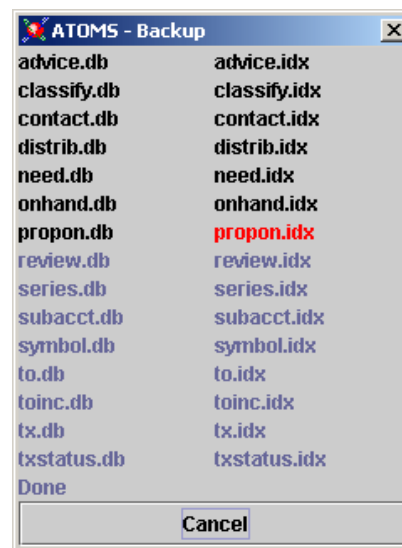

Figure 4-17. Back-Up Progress
- 3) When satisfied with the directory selected, click **OK**. A **Back-Up Progress** window appears (Figure 4-17), clicking off the files (changing colors to red and then black) as they are written to the selected Back-Up directory.
- 3) When satisfied with the directory selected, select **OK**. A Restore Progress window appears (very similar to the Back-Up Progress window in Figure 4-17), clicking off the files (changing colors to red and then black) as they are copied back to ATOMS from the selected directory.